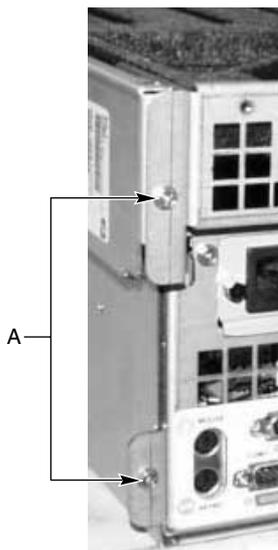

Figure 2-3 E-Bay Retaining Screws
20. Remove the four screws on the top and bottom edges of the rear subchassis. These screws attach the E-Bay to the chassis. Two of the four screws are noted as "A" in Figure 2-3.
7. Attach the four screws on the top and bottom edges of the rear subchassis. See Figure 2-3 on page 30.